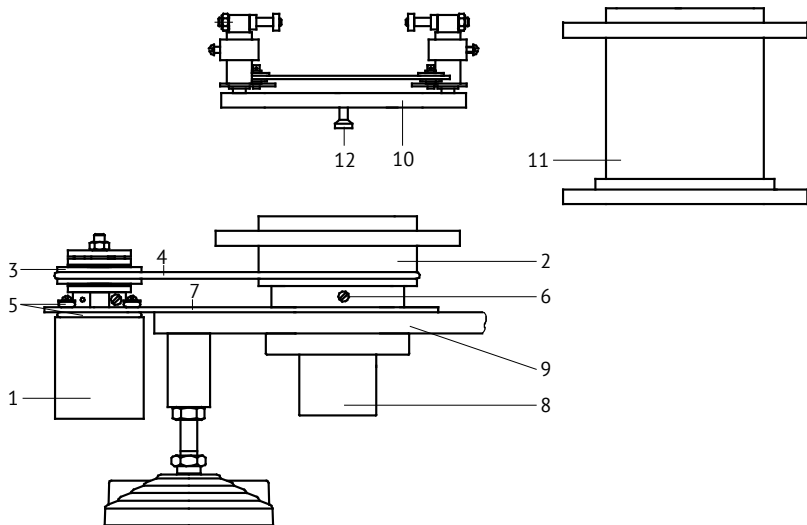
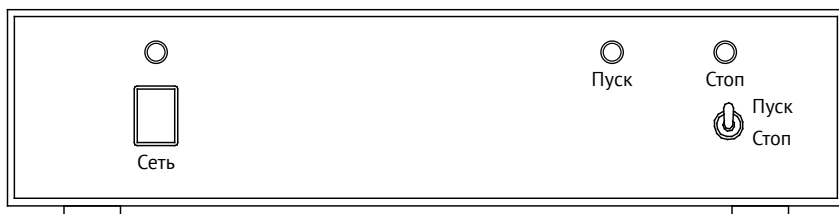
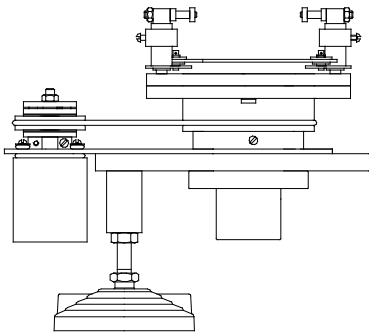

Fig. 1. Outside view of the drive.
Fig. 2. Control unit
Fig.3.
4.1 Outside view of the drive is shown at Fig. 1.
4.2 Outside view of the control unit is shown at Fig. 2.
4.3 The IPS drive consists of a mechanical part (Fig. 1) and an electronic part (Fig. 2). The mechanical part includes the drive base consisting of engine 1 (Fig. 1), slave unit 2, host unit 3, drive belt 4. Drive parts are mounted on plate 7. To reduce vibration and noise, the motor is attached to the plate through rubber rings 5. To prevent possible impacts when starting and stopping, the drive unit has a friction clutch configured for a specific moment. The entire mechanical part of the drive is fixed on the
4.4 For the operation of the bell, the pushers assembly shall be installed on the drive (see Fig. 3), then the IPS and the bell must be installed (see Fig. 4). To install the pushers assembly, it is necessary that the lock pins 12 (Fig. 1) simply enter the holes of the slave unit.
7.1 Install the required IPS. Next, depending on the measurement limit of the IPS, set the pushers assembly or the adapter sleeve with the pushers assembly on the Drive according to Figures 3... 6.